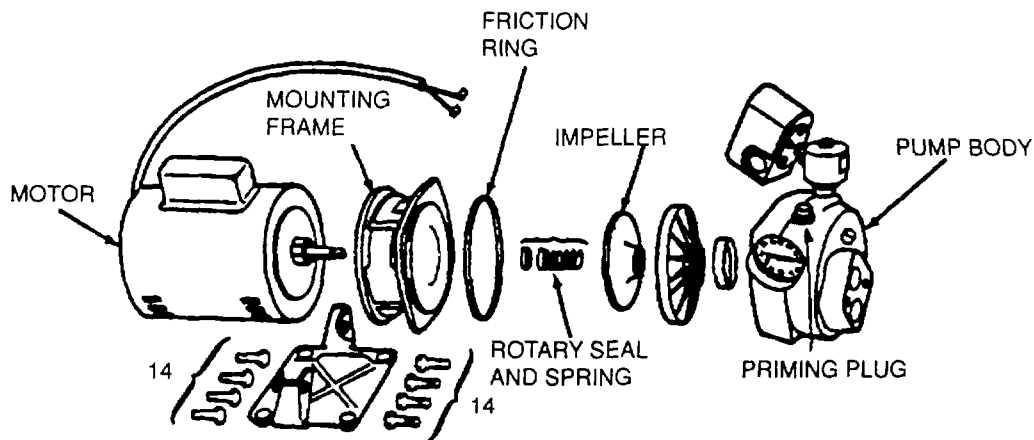

Figure 4-1. Pressure Set Pump Assembly, Exploded View
- (1) Air volume control replacement
- (2) Pump rotary seal assembly replacement (Figure 4-1)